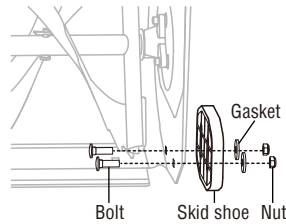

Fig.15A
1. Loosen and remove the nuts, gaskets, and the skid shoe from the bolts (Fig.15A).